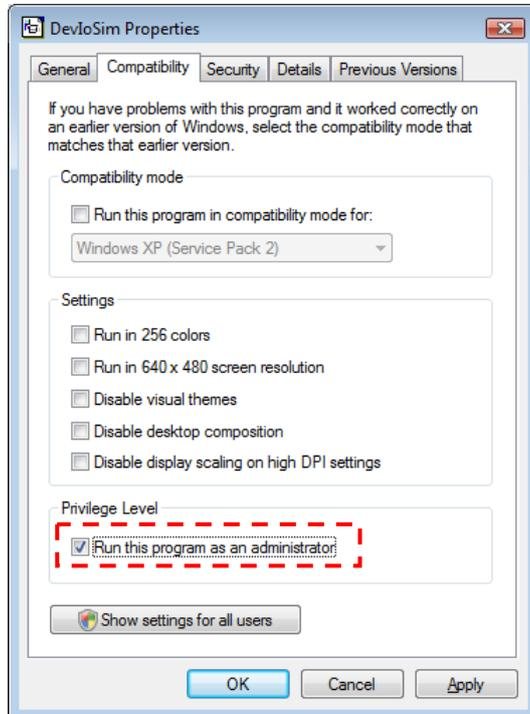

Figure 7.1
2. Make sure that the **DT-X7 Device Emulator** has started up on the screen. See Figure 7.1.
5. If Figure 7.1 and Figure 7.2 appear on your PC, you are ready to use the emulator.